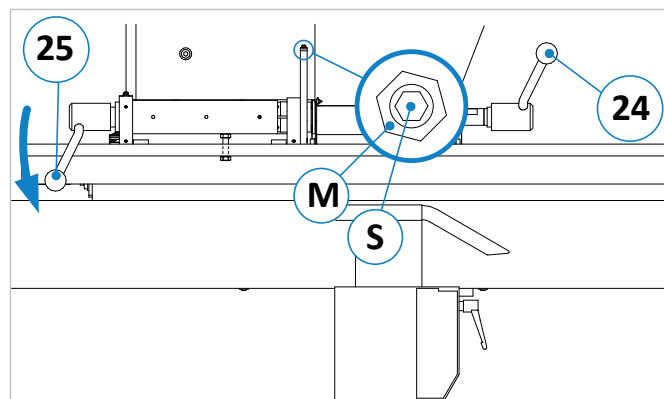

Figure 40: Calibrate angle to 45 degrees
1. When the clamping lever (**24**) is open, move the adjusting lever (**25**) forwards (towards the planing table) (\Rightarrow Figure 40) \rightarrow Fence automatically folds to 45°.